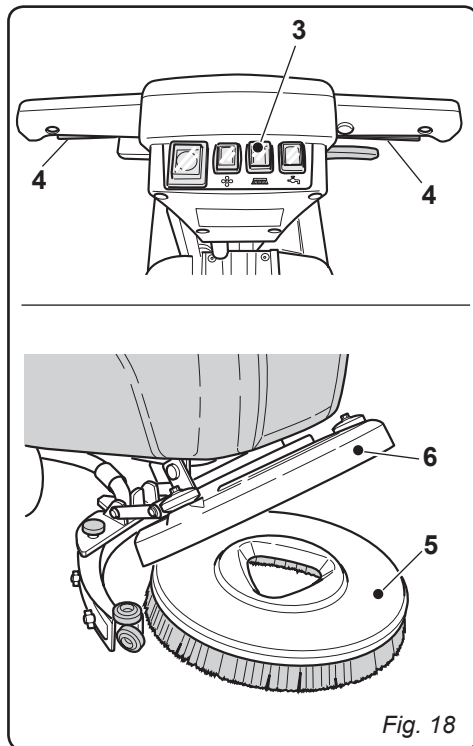

Fig. 18
11.1.e - Replacing the brush (Fig. 18)